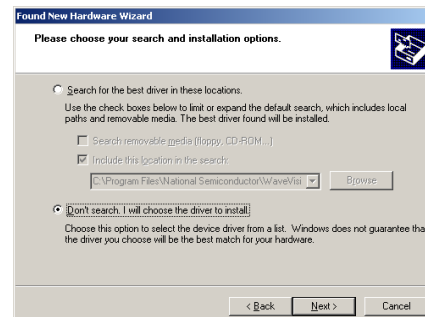

Figure 11: Choose the driver to install
6. In the search and installation options, select 'Don't search, I will choose the driver to install' as shown in Figure 11.